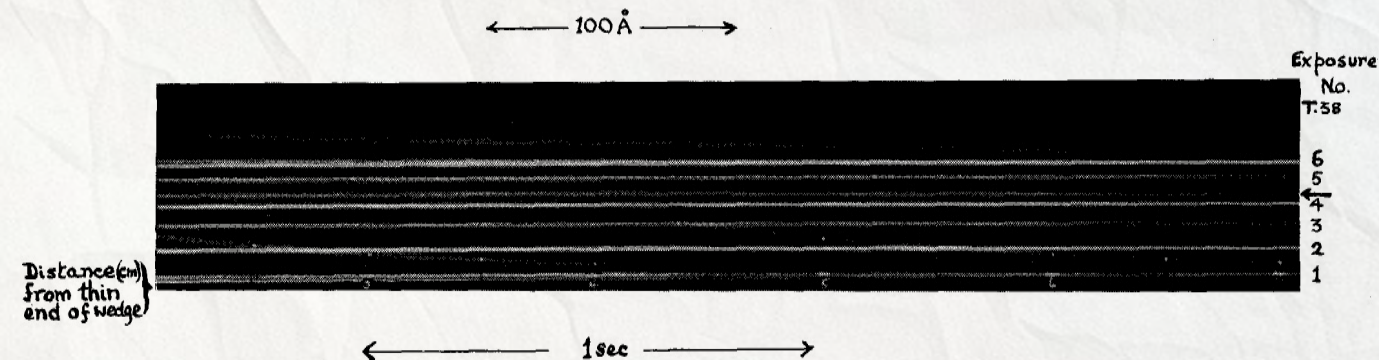
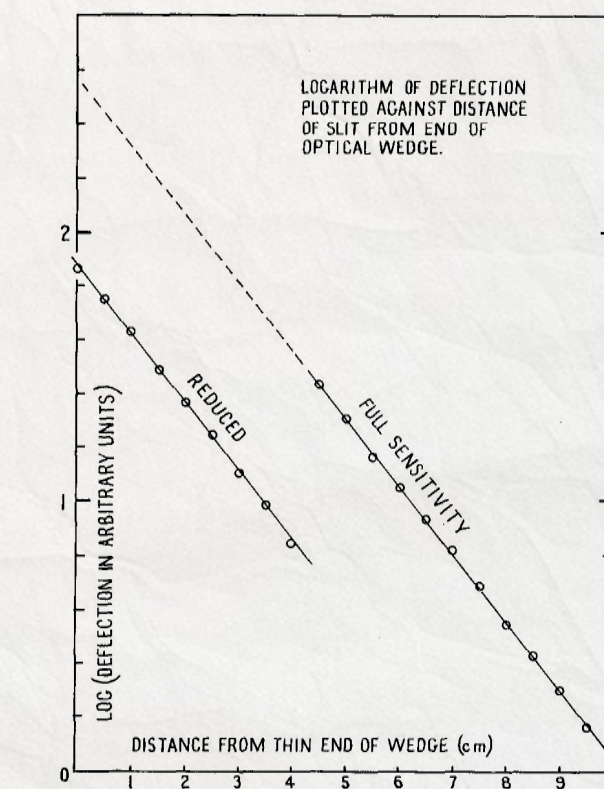

Fig. 8. Contact print of a section of a recording.
Fig. 9.
During the test the grating arm is fixed for some selected wavelength. The slit is illuminated with a steady bright source and the response is recorded during the wedge traverses. Some results are shown for one traverse in fig. 8 and data are plotted† in fig. 9. Sensitivity reduction factors up to 14 have been tested but a value between 3 and 6 has been found more generally useful.
2. The calibration determines whether measurements are being made consistently from a proper origin, in which matter there is some choice. Deflections can be measured either (a) from the normally undeflected (or almost undeflected) zero line traced in the quiescent state between pulses or (b) they can be measured from the estimated deflected zero (when it is resolved). In case (a), it would generally be necessary to use a calibration curve as such. In case (b) the origin for measurement is not so immediately obvious but is easily estimated after a little practice in allowing for the spot size (which limits the intensity resolution). In this case the curves for full and reduced sensitivity are substantially straight and parallel as in fig. 9. We have much preferred method (b) and have neglected any departure from linearity.
As the signal increases the amplifier becomes increasingly undershot and the spot moves from its normal zero position and clears the strip by an increasing amount. With a little experience it is easy to estimate the spot centre in the partially or wholly cleared position. An increasing "undershooting" effect follows when the discriminator has come into action. This can be seen in figs. 8 and 9. Many time-resolved firings have been investigated with a view to introducing modifications to reduce the effect which is related to the transient cancellation. There are good prospects for improvement although at present this seems unnecessary.